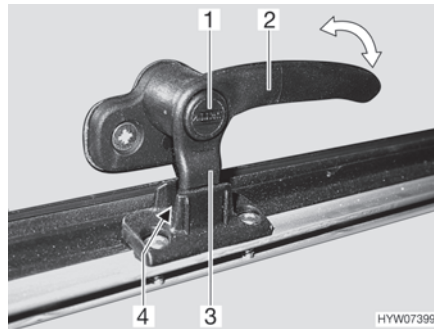
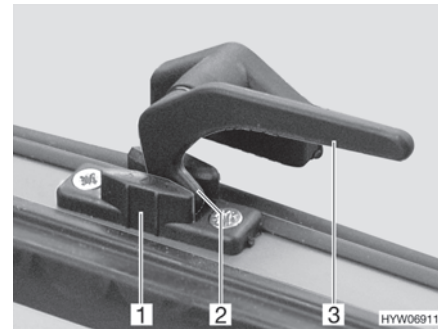

Fig. 71 Catch lever with safety knob in "continuous ventilation" position
Fig. 72 Catch lever in "continuous ventilation" position
- "Continuous ventilation" (Fig. 71 and Fig. 72)
- Press and hold the security button (Fig. 71,1), if present.
- Turn the catch lever (Fig. 71,2 or Fig. 72,3) a quarter turn towards the centre of the window.
- Return the catch lever to its initial position. Move the locking catch (Fig. 71,3 or Fig. 72,2) on the catch lever into the recess of the window catch (Fig. 71,4 or Fig. 72,1).